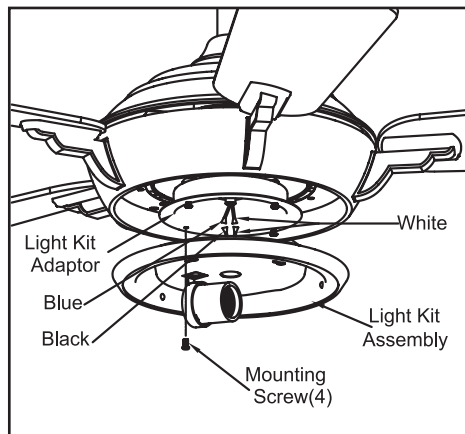

Figure 12
1. Loosen but do not remove three of four mounting screws from the light kit adaptor below the fan motor assembly; remove one mounting screw (Figure 12).